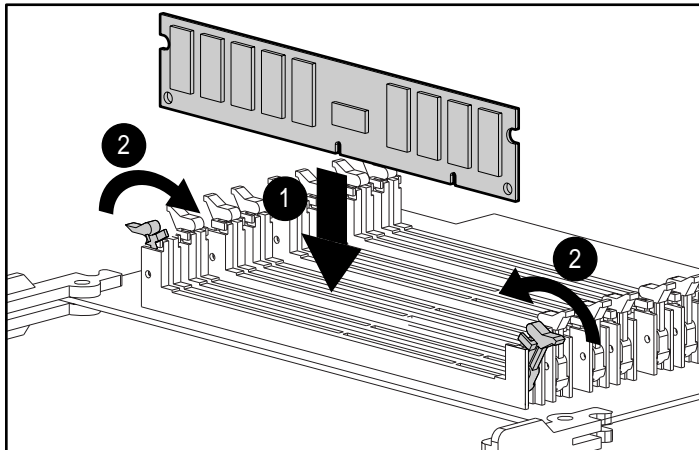

Figure 4-6. Latching DIMMs
2. Install DIMMs as shown in Figure 4-6. For information on memory banks, see the following section titled “Memory Banks.”